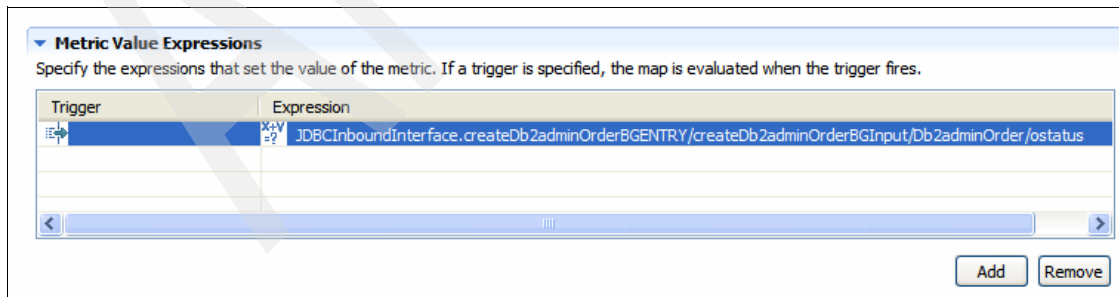

Figure 6-53 Completed Metric Value expression
- Figure 6-53 shows the completed Metric Value Expression. Save your work.